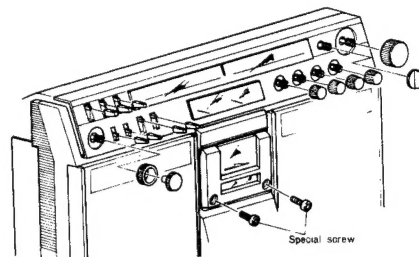

Fig. 5
- 2) Remove all control knobs (total 15 pieces). (See figure 5)